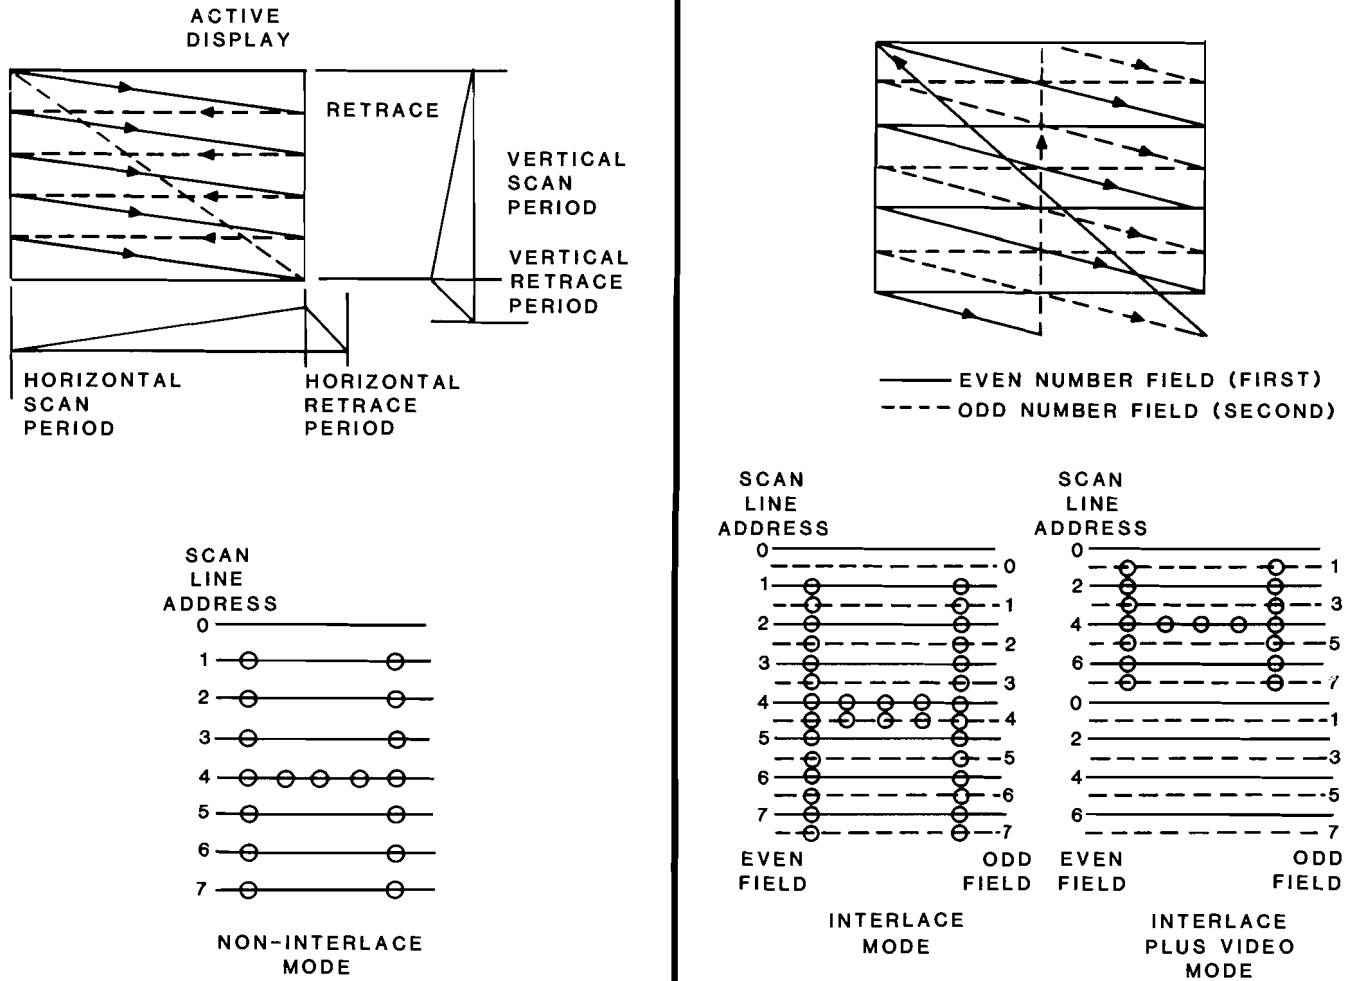

Figure 3.2. Interlace/Non-Interlace Modes
- Interlace Mode and Skew Register (R8)**—This write-only register is used to control the interlace (2 modes) or non-interlace mode of the display (Figure 3.2), and the display enable offset (skew or delay) of the pixels. The mode is controlled by the 2 low-order bits, as shown in Table 3.2. The Z-329 Card normally is operated in the non-interlace mode. Bits 4 and 5 control the skew (delay) of the characters, and bits 6 and 7 control the skew of the cursor. Tables 3.3 and 3.4 define the function of these bits. The default value for this register is 02H (2 decimal).